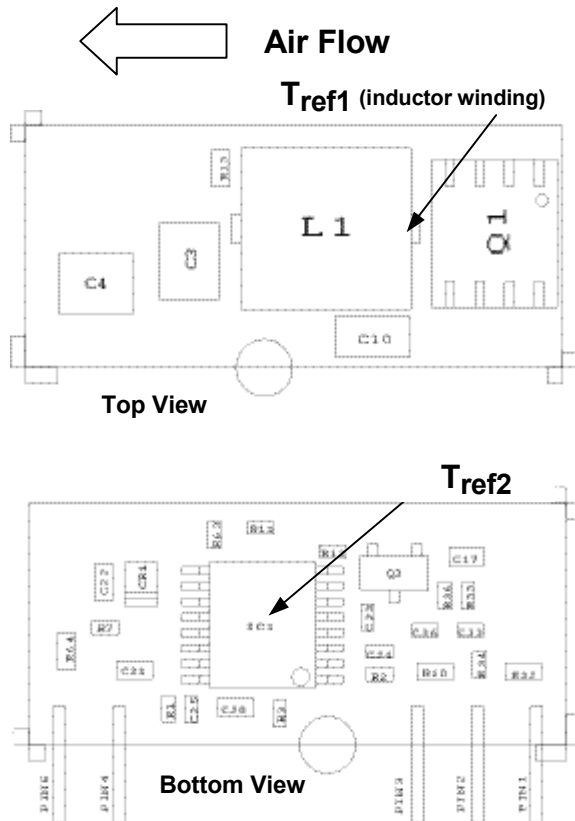
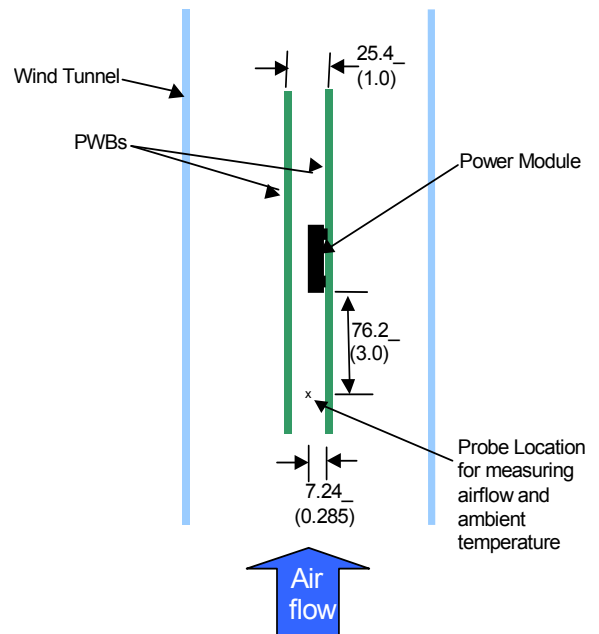

Figure 32.  $T_{ref}$  Temperature measurement location.
Figure 33. Thermal Test Set-up.
To provide over temperature protection in a fault condition, the unit relies upon the thermal protection feature of the controller IC. The unit will shutdown if the thermal reference point  $T_{ref2}$ , (see Figure 33) exceeds  $140^{\circ}C$  (typical), but the thermal shutdown is not intended as a guarantee that the unit will survive temperatures beyond its rating. The module will automatically restarts after it cools down.
Considerations include ambient temperature, airflow, module power dissipation, and the need for increased reliability. A reduction in the operating temperature of the module will result in an increase in reliability. The thermal data presented here is based on physical measurements taken in a wind tunnel. The test set-up is shown in Figure 33. Note that the airflow is parallel to the long axis of the module as shown in Figure 32. The derating data applies to airflow in either direction of the module's long axis.
The thermal reference point,  $T_{ref,1}$  used in the specifications of thermal derating curves is shown in Figure 32. For reliable operation this temperature should not exceed 125°C.